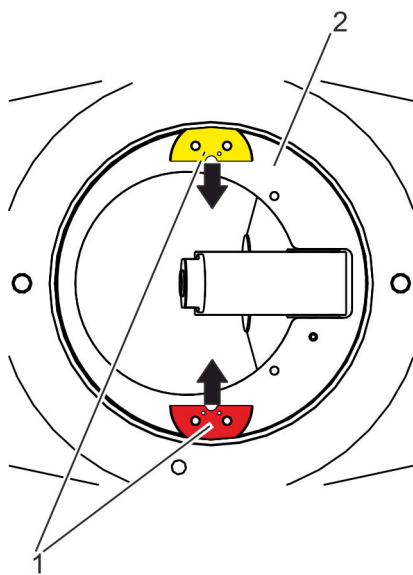

Fig. 17: Removing retaining washers
3. ➤ Push the retaining washers (Fig. 17/1) to the interior and remove from the body.
⇒ The retaining ring (Fig. 17/2) is no longer tensioned in the body.